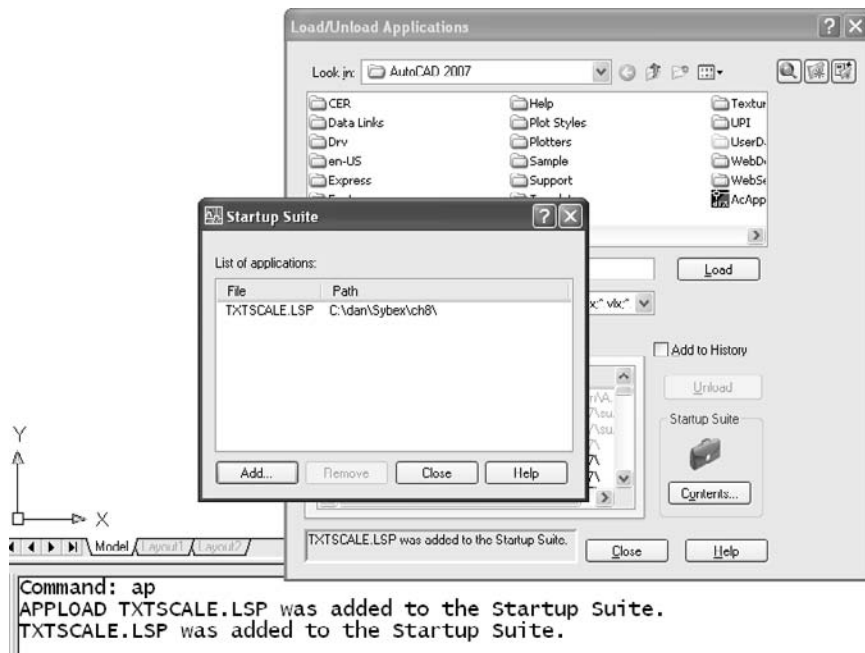

Figure 8.1
Once you’ve saved an AutoLISP file, you can load it using the APPLOAD (AP) command in AutoCAD. If you want it loaded every time you start AutoCAD, put the file in the Startup Suite of the Load/Unload Applications dialog box shown in Figure 8.1.